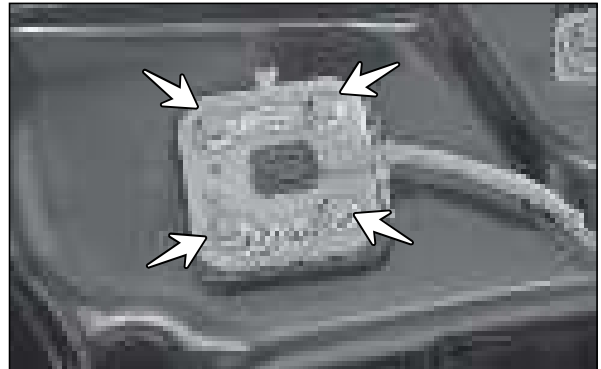

Fig. 4.5
- Remove hexagonal flange bolt (M5x14 - 4 Nos.) from the fuel sender unit mounting. (Fig. 4.5)